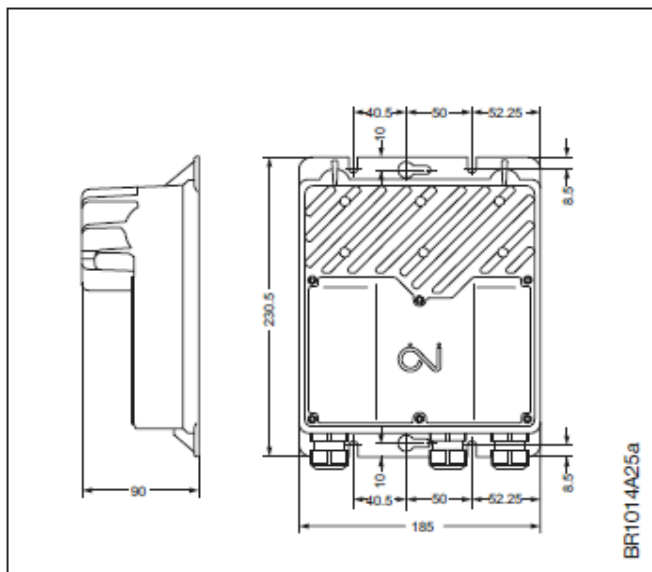

Fig. 3-2:
- Dimensioned drawings, see figs 3-2 to 3-5.